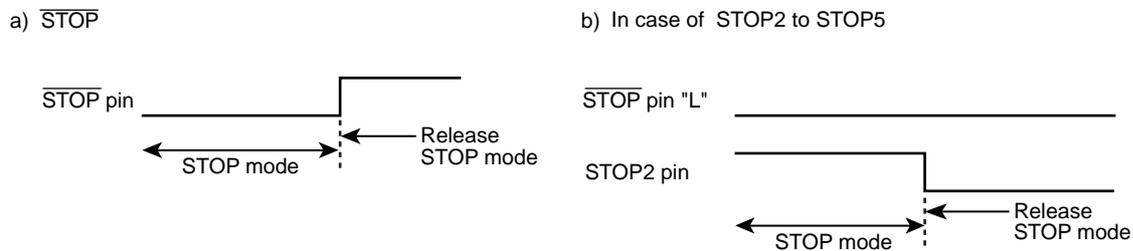

Figure 16-3 Priority of $\overline{\text{STOP}}$ pin and STOP2 to STOP5 pins
- Note 6: When the STOP mode is released by STOP2 to STOP5 pins, the level of $\overline{\text{STOP}}$ pin should hold "L" level (Figure 16-3).